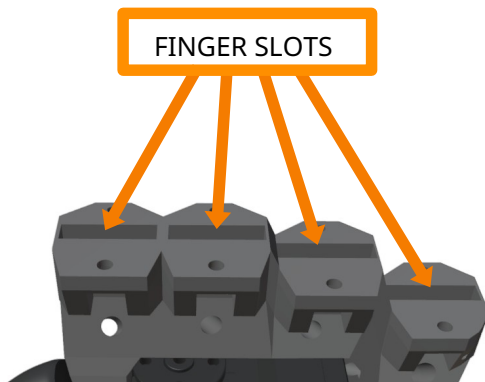

Figure 5.13: Finger slots
1. Insert the finger into its slot on the skeleton (figure 5.13)